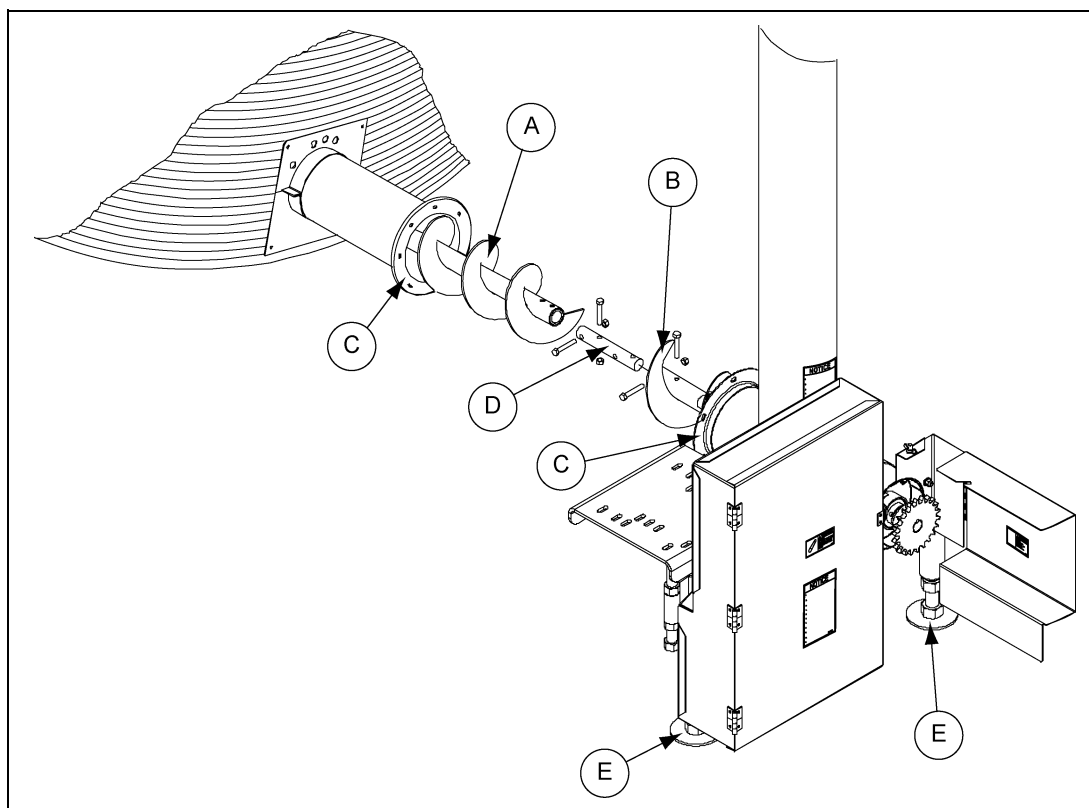
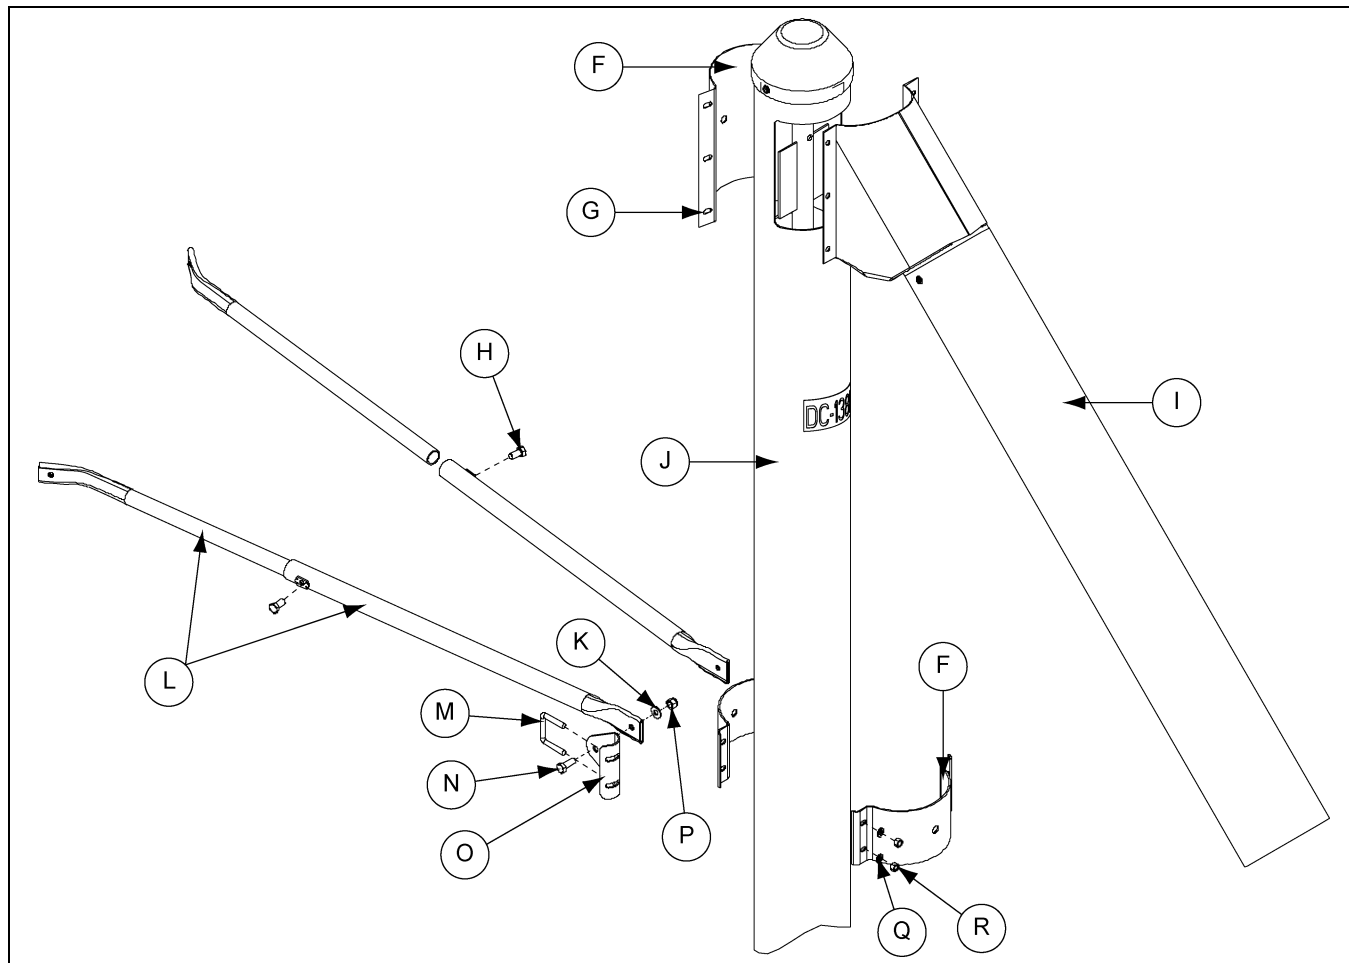

Figure 4A 8" Shown
Figure 4B
3. Slide bin unloading flight (A) into unloading tube. With vertical auger in upright position, attach flanges (C) together using 5/16" x 3/4" bolts with hex nuts. *(See Figure 4A below and Figure 4B on Page 16.)*
4. Adjust stands (E) so they hold the weight of the vertical auger. *(See Figure 4A.)*
- Using the same U-bolts (M) and nuts (R), attach ears and half band (F) to vertical tube at the same. For maximum stability, locate the bands on the upper half of the tube. (See Figure 4B.)
- Bolt telescoping tubes (L) to the ears (O) using two (2) 3/8" x 1" bolts (N) and nylock nuts (P). (See Figure 4B.)